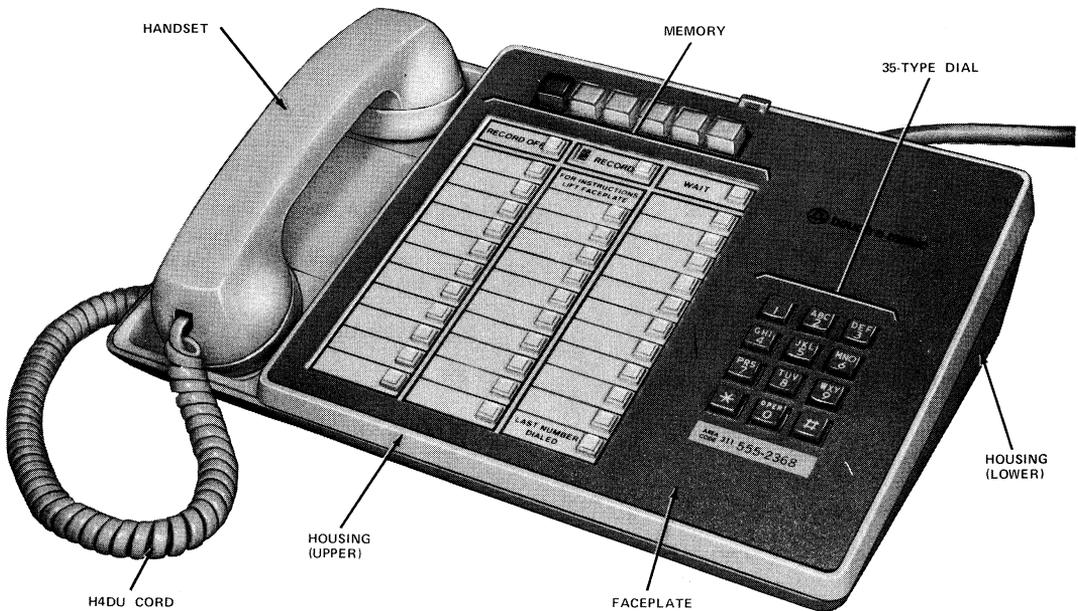

Fig. 1—2872A1M (MD) or 2872A2M Telephone Set
1.01 This section contains information on the 2872A1M (MD) or 2872A2M (TOUCH-TONE® Dial) TOUCH-A-MATIC telephone set (Fig. 1).